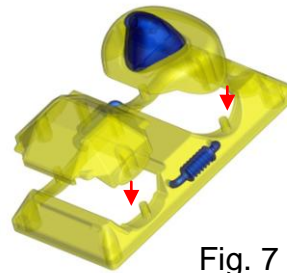

Fig. 7
5. Install the turret of step 3 and the body top (3) to the body frame. (Fig. 7)